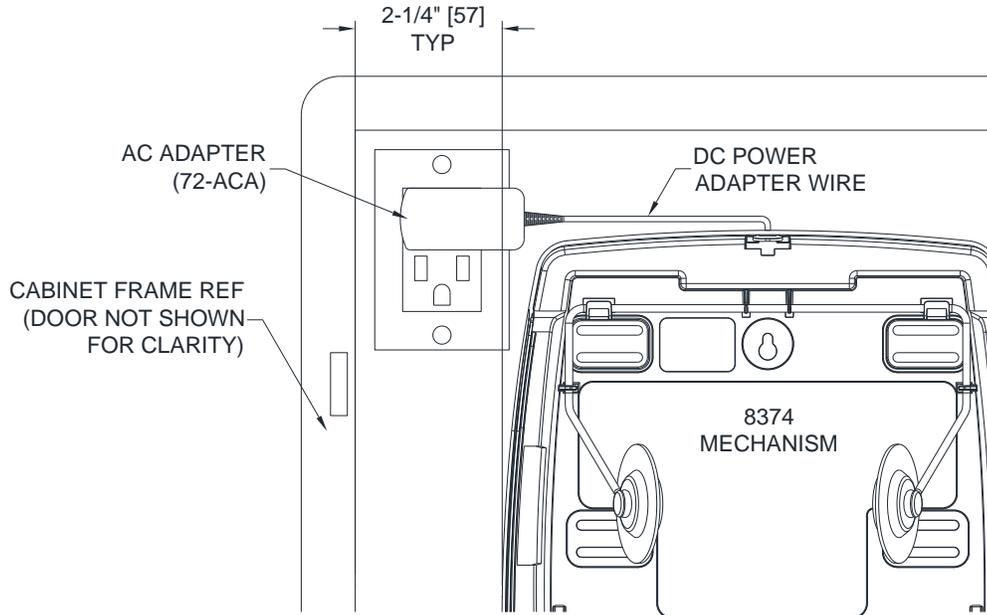

Fig. 4
1. The supplied electrical utility box is fastened with two (2) #8 - 32 x 3/8" pan-head screws (supplied) into the threaded weld nuts provided in the cabinet enclosure (see Fig. 4).
Unit will not activate at all	<ul style="list-style-type: none"><li>• Make sure batteries (if using) are in the battery compartment and in the correct configuration as shown in the graphics engraved inside the battery compartment.</li><li>• Make sure AC plug is plugged into one of the utility box outlets and Ø2 plug is fully engaged into socket (see Figs. 4 and 5) on rear of the mechanism &amp; verify that 100-240VAC is provided to duplex outlet.</li><li>• Clear any/all obstructions that are too close to the unit (within 12" [305] of any side).</li></ul>